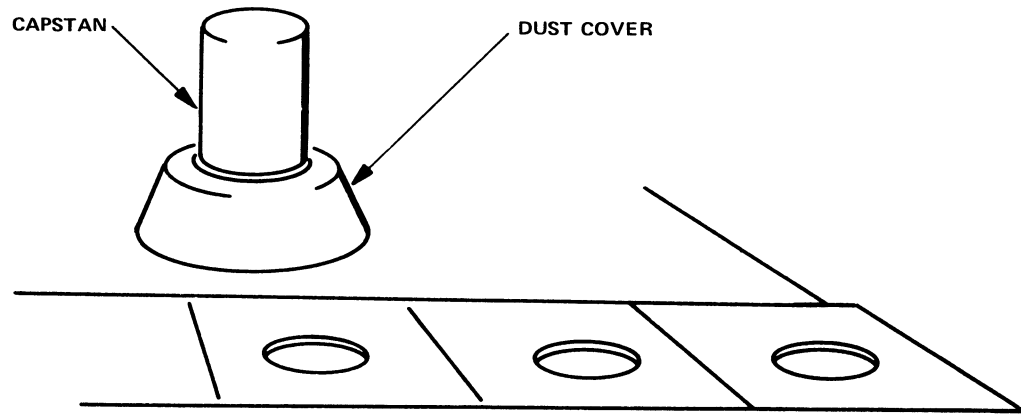

Figure 1. Dust Cover Position
3. Remove the dust cover from the capstan. See Figure 1.
17. Place the round aluminum dust cover on the capstan bearing support as shown in Figure 1.